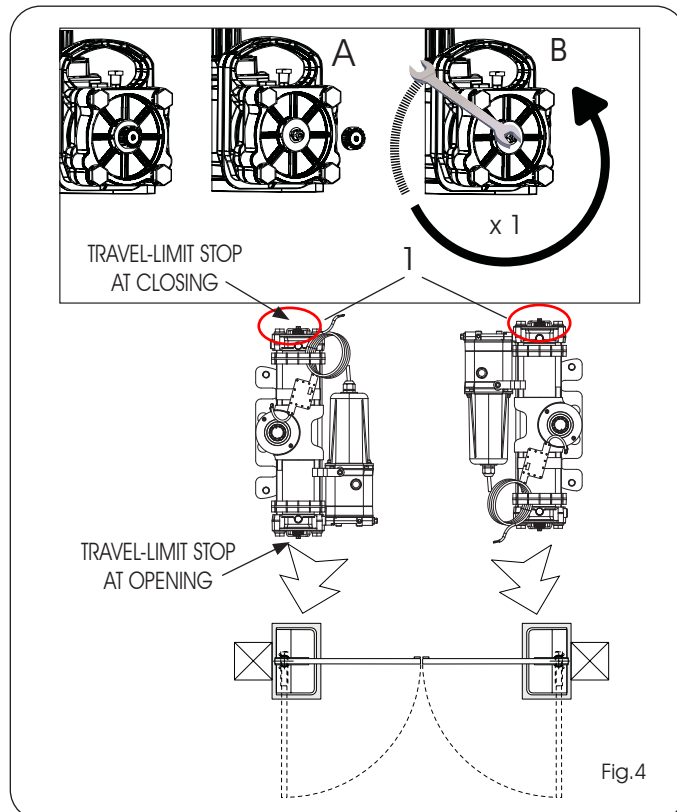

Fig.4
- 3) Unscrew the plastic plug (Fig.4 ref. A) of the closing travel limit adjustment nut (Fig.4 ref. 1) and make sure that the nut is tightened all the way. **Do not force the nut otherwise there could be permanent internal damage to the operator**
- 4) Loosen the closing limit nut (Fig.4 ref.B) by one turn counterclockwise. This will allow correct alignment of the pinion with the splined collar during installation